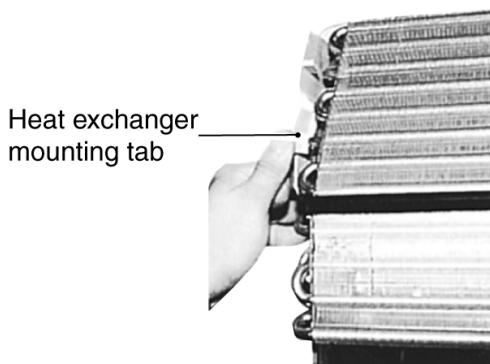

Fig. 11
- Take off the mounting tab at the left of the Heat Exchanger, pull the Heat Exchanger forward (left side) and remove the Cross Flow Fan. (Fig 11.)